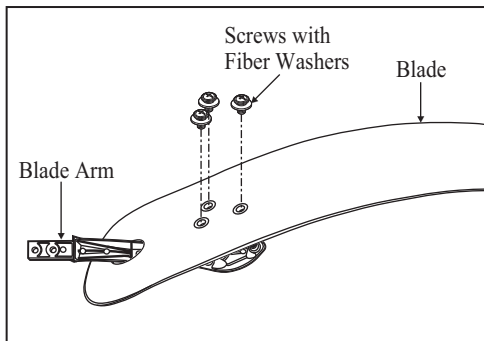

Figure 14
2. Attach the blade arm to the blade using the screws with fiber washers provided (Fig. 14), start a screw into the blade arm, do not tighten, repeat for the 2 remaining screws and fiber washers.